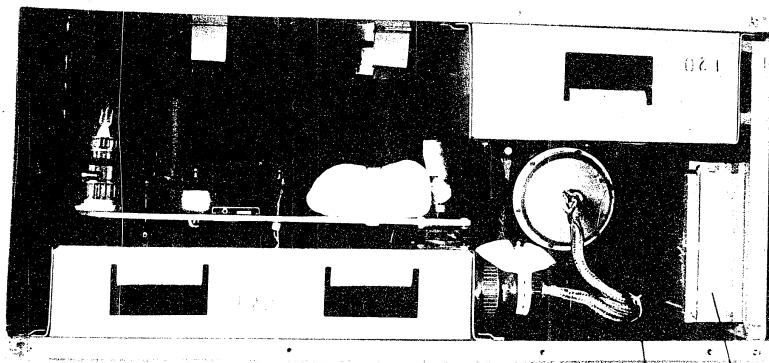

Fig.4. H-1 and H-2 Units in Tare
Secure cables No.45 and 47 to cable No.44 by the tape with the button (1) and place them in the box (2, Fig.4) manufactured according to dwg. No.399.01.00.000, with the plug connector mating parts furnished with the autopilot set.